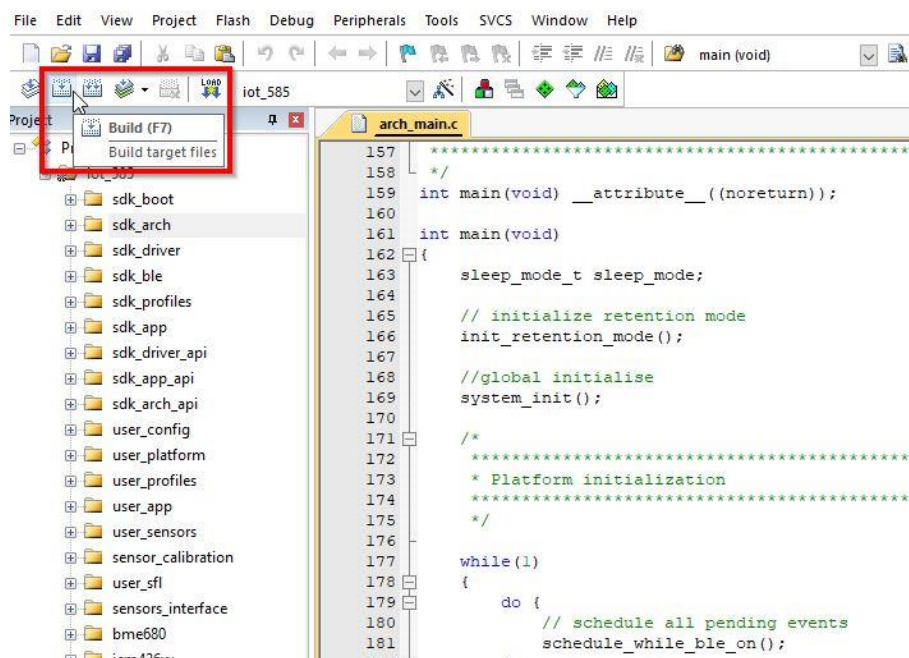

Figure 17: IoT Sensors Reference Application State Machine
3. Refer to Figure 17: IoT Sensors Reference Application State Machine To build the KEIL project.